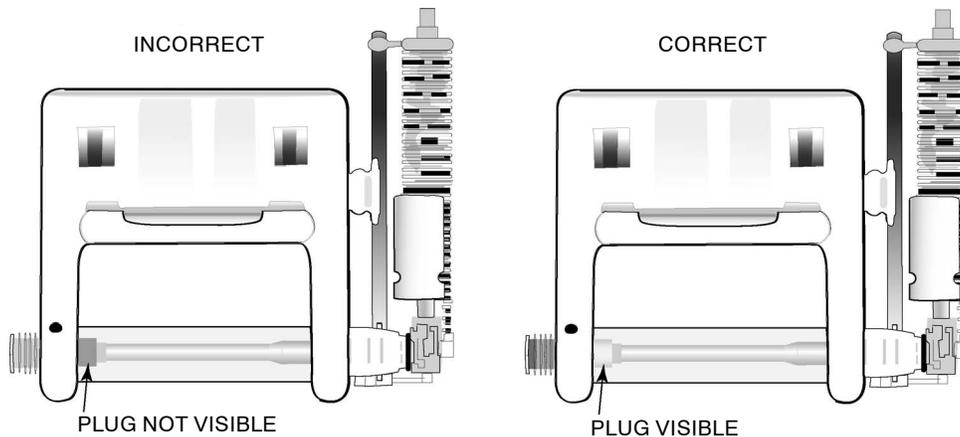

Figure 52. PHSRU X-Ray
d. Review X-ray/printout (Figure 52).